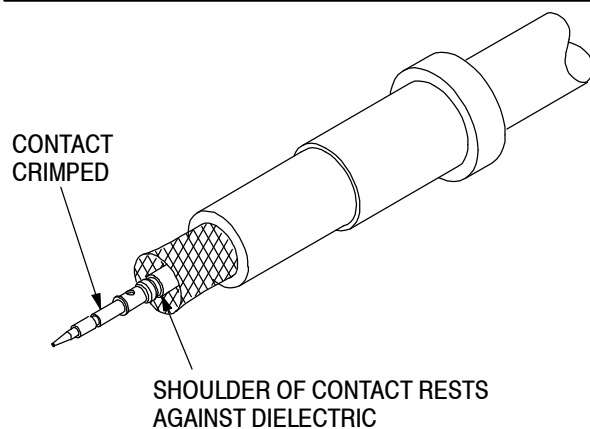

Figure 6
2. Flare cable braid and insert center conductor into contact. The shoulder of the contact should rest against the cable dielectric, as shown in Figure 6.
3. Crimp center contact using the recommended crimping tool. Refer to the instruction sheet (packaged with the tool) for specific crimping procedures. See Figure 6.